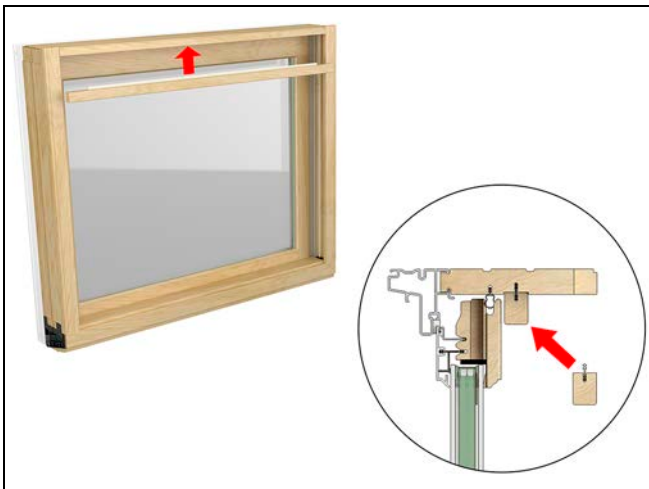

Figure 75
6. Insert the head jamb parting stop into the head jamb seating the barb on the stop into the kerf. See Figure 75.